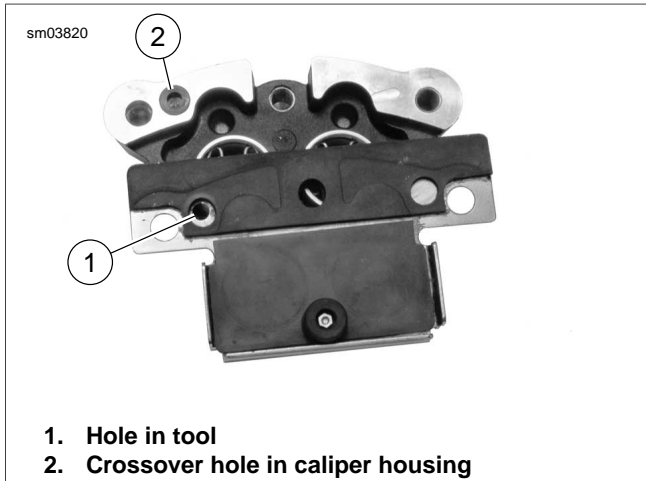
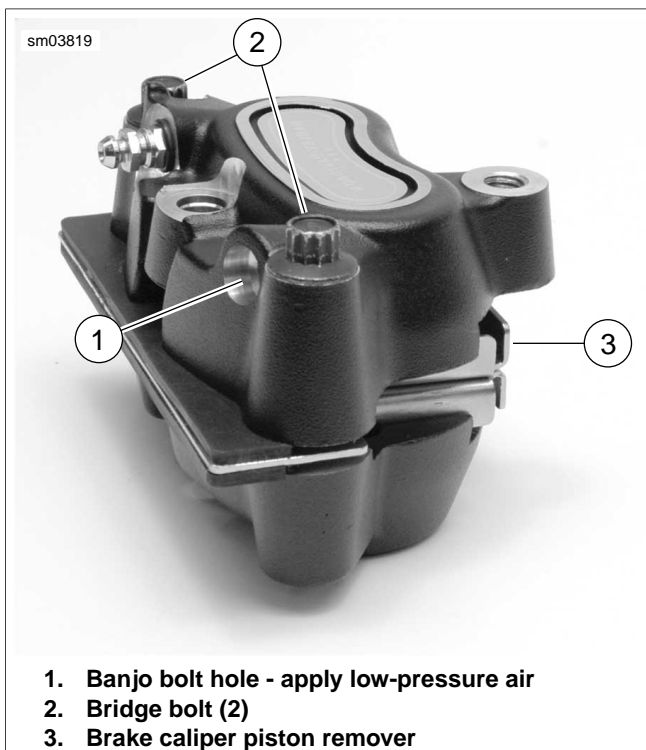

Figure 2-68. Installing Tool
Figure 2-69. Removing Pistons
3. See Figure 2-68 and Figure 2-69. Remove pistons.
- a. Place FRONT BRAKE CALIPER PISTON REMOVER (Part No. HD-48649) (3) between caliper housings.